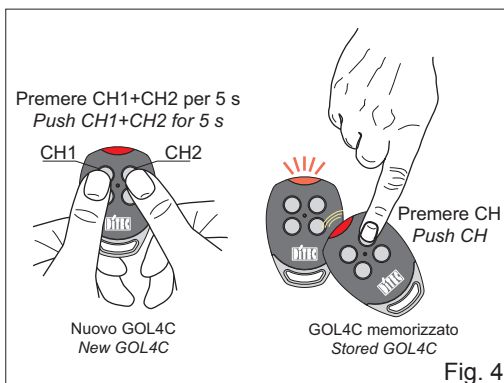

Fig. 4
6. CLONAZIONE GOL4C (fig. 4)
6. CLONING GOL4C (fig. 4)
- Bring the GOL4C transmitter (already memorised) near (see fig. 4), and make a transmission by pressing any one of the CH buttons.